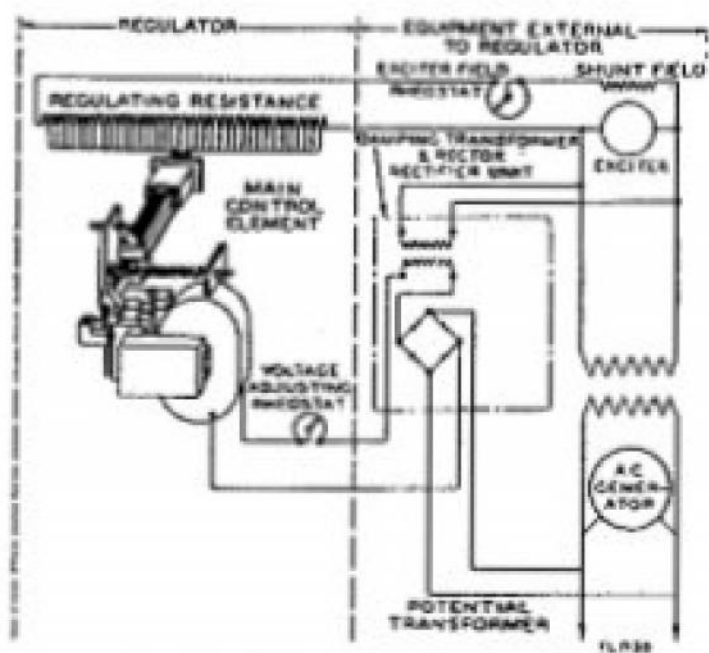

Figure 21. Wiring diagram of voltage regulator.
(4) *Detailed description of operation.* (a) The voltage of the machine to be regulated is connected across the regulator coil circuit. (See fig. 21.) An iron magnetic circuit, in the shape of a square C, passes through and mounts the regulator coil. The movable arm of the element is mounted so that the iron armature attached to its lower end can move in the air gap of the magnetic circuit against the pull of a spring. Thus, any change in the value of the voltage being regulated correspondingly changes the magnetizing effect of the coil on the iron magnetic circuit. This in turn causes a change in the flux in the air gap and changes the attractive force on the iron armature of the moving arm, causing it to change its position.